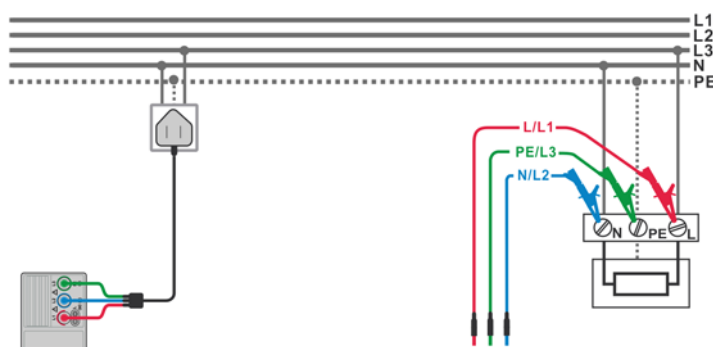

Figure 5.26: Connection for measurement of fault loop impedance
- ❑ **Connect** the test leads to the installation wiring to be tested (see *Figure 5.19* and *Figure 5.26*).